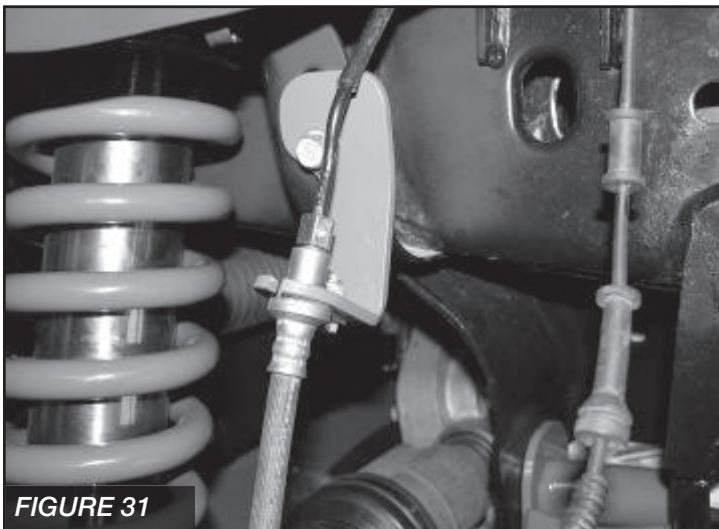

FIGURE 31
40. Locate the factory brake line in the coilover tower. Carefully cut the tower to remove the brake line. Remove the bracket from the frame saving the hardware. Carefully pull the brake line down from the frame approximately 4" (use care to not damage the hard line). Locate FT44071 Driver Brake Line Drop Mount Bracket and attach in original brake line mounting position. Locate the supplied $\frac{1}{4}$ "x $\frac{3}{4}$ " hardware and attach the factory brake line bracket to the new drop bracket. Torque to 10 ft-lbs. **SEE FIGURE 31**